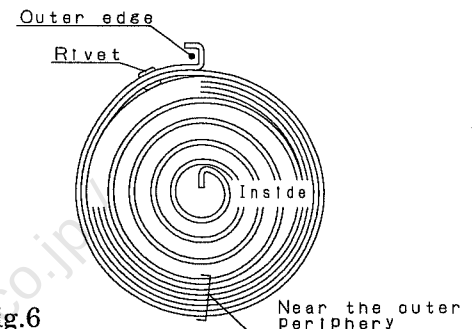

Fig.6
Reassemble the cover (17) to drum (11), then contact to the store. (see Fig.6)
- 7) Remove spring (13) from drum (11).
Never remove Spring (13) from Drum (11) when Spring is broken near the outer periphery or the rivet of Spring is broken (see Fig.6).